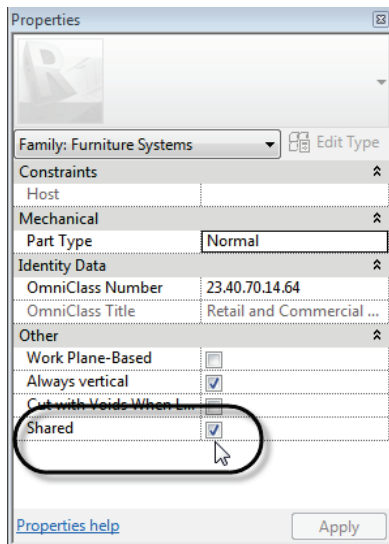

Figure 17—Make a Family Shared on the Properties palette
- Linking up nested parameters**—If you have a nested Family, you can drive the parameter values in that family from the host family. To do this, look for the small button in the far right column of the Properties palette or "Type Properties" dialog (see the right side of Figure 17). You will need to create a parameter in the host family that will drive the value of the nested family parameter. This parameter can have the same name or can be different.
Let's tie the previous two topics together. If you have created Shared Parameters to report in your schedules and tags and you are using nested families, then it is very important that you also consider using "Shared families." A Shared Family enables the nested family to appear as a separate selectable element in the host family or project. If you have parameters in the nested family that you wish to schedule or tag, you *must* use a shared family. You can do this with the "Family Category and Parameters" dialog or directly on the Properties palette (see Figure 17).